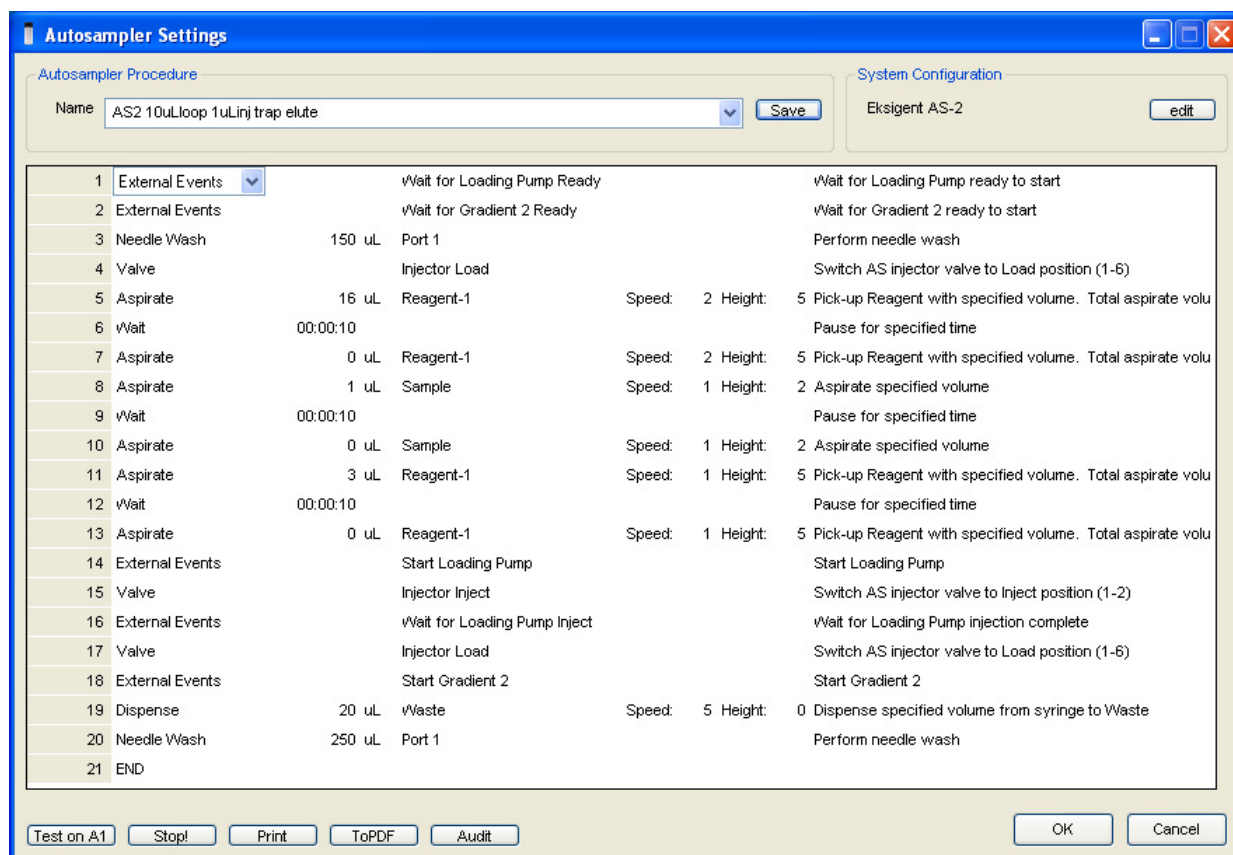

Figure 3-12 Autosampler Settings dialog—trap-elute configuration (Nanoflex system)
3. Create the autosampler method for a trap-elute configuration, as shown in Figure 3-12.